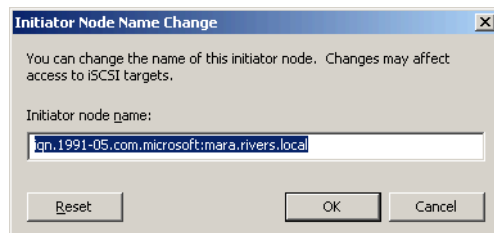

Figure 23-7 Initiator node name change
2. The IQN is displayed in Figure 23-7. Copy the IQN to the clipboard and click **Cancel** to close this dialog.